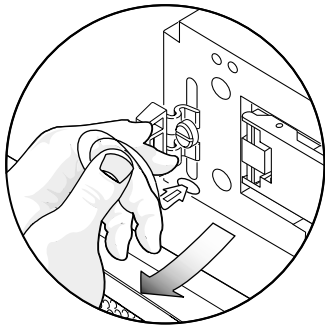

FIGURE 5-10 Pulling the Head of the Tether out of the Array
- 5. Pull the head of the tether entirely out of the chassis (FIGURE 5-10).**